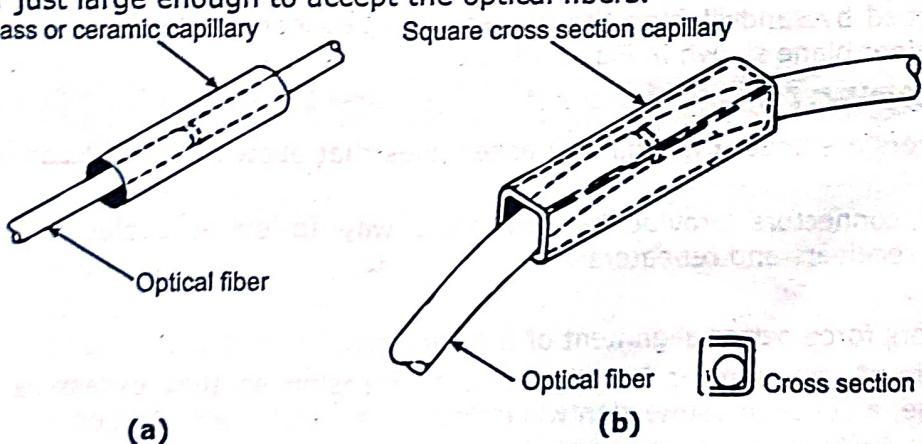

Fig. 2.14: Techniques for Tube Splicing of Optical Fibers: (a) Snug Tube Splice, (b) Loose Tube Splice utilizing Square Cross-section Capillary
- This snug tube splice shown in Fig. 2.14 (a) and many utilize a glass or ceramic capillary with inner diameter just large enough to accept the optical fibers.
- An elastic tube splicing technique which avoids the critical tolerance requirements of the snug tube splice shown in Fig. 2.14 (b).
- The splice is self-aligning when the fiber are curved in the same plane, forcing the fiber ends simultaneously into the same corner of the tube shown in Fig. 2.14 (b).